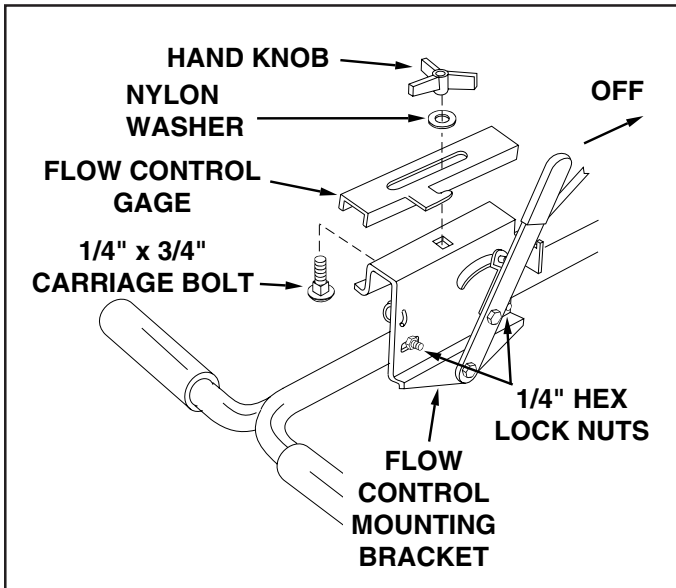

FIGURE 14
23. Assemble the flow control gage onto the flow control mounting bracket using a 1/4" x 3/4" carriage bolt, a nylon washer and hand knob. See figure 14.
24. Move flow control arm to off position and push flow control mounting bracket toward hopper until closure plate (located in bottom of hopper) is completely closed. **Tighten** 1/4" hex lock nuts assembled in step 21. See figure 14.